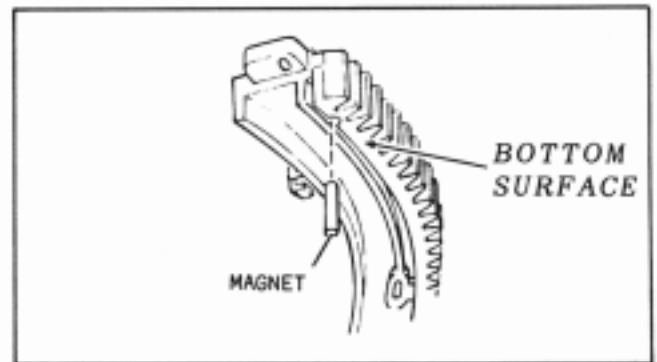

FIGURE 5
8. Remove sensor pin, fill hole with RTV or Silicone Caulking (purchase at local hardware store) and place magnet in hole. (See Figure 5).